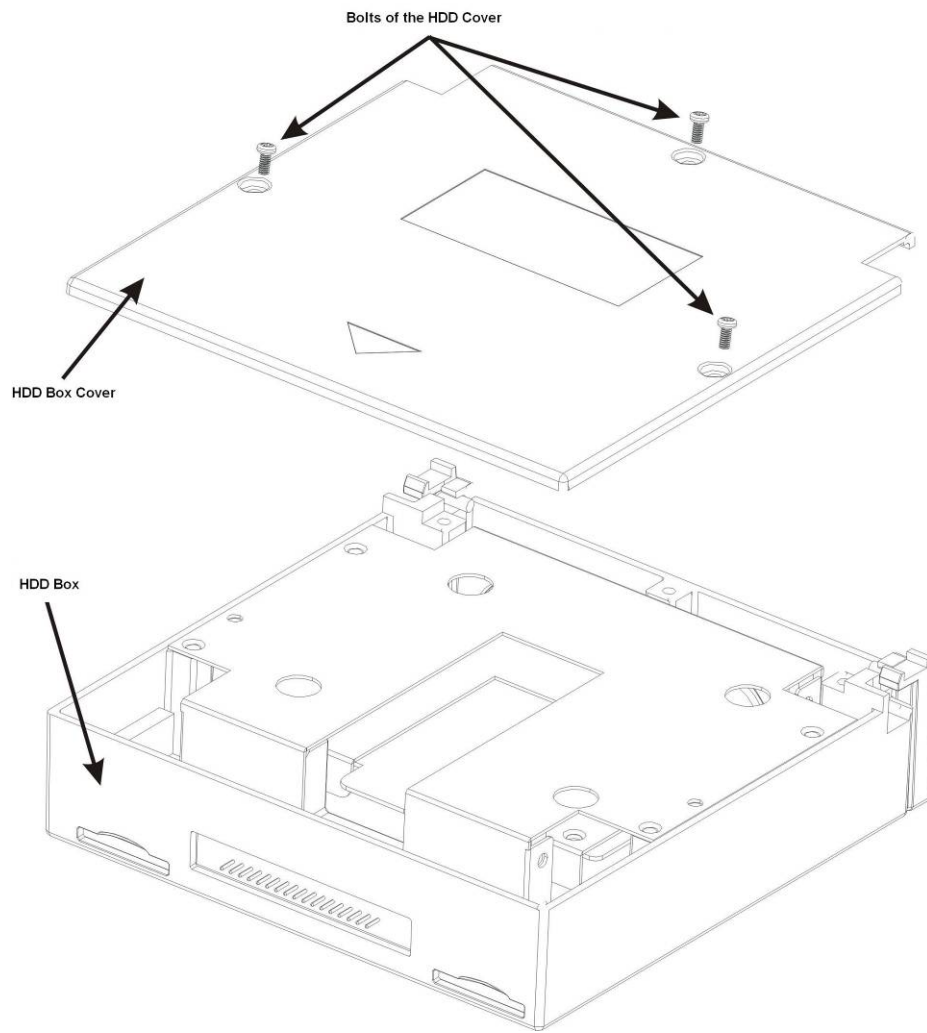

Figure 3-1
1) The HDD box and the parts are shown as below. See Figure 3-1. Please loosen the bolts of the HDD box and then remove the HDD box.
The video input interface is BNC. The input video format includes: PAL/NTSC BNC (1.0V_{P-P}, 75Ω. See Figure 3-1.